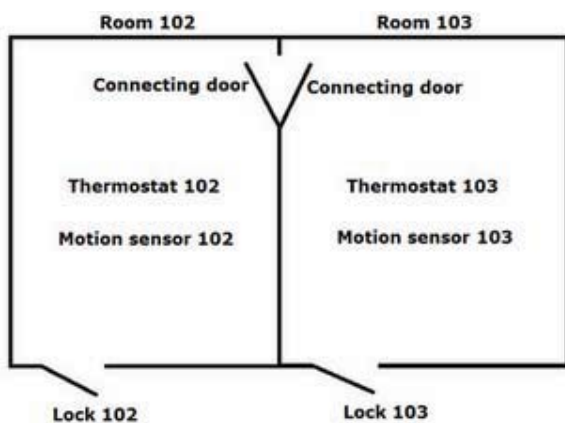
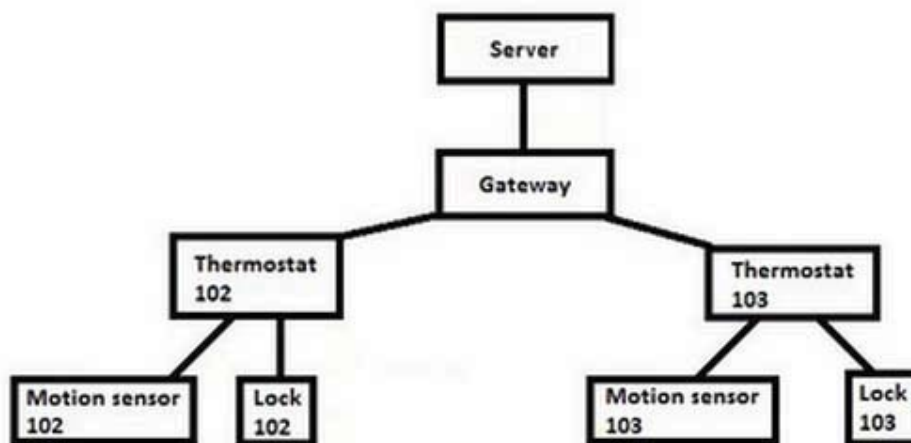

Figure C10
Figure C12
When a suite card is presented at one of the concerned VingCard locks (to either *lock 102* or *lock 103* in the example in Figure C10), the thermostat communicates with the other connected room to activate suite mode and share events. The suite will be active and events will be shared between the two thermostats, even if the connecting doors are closed. Upon check-out or if the suite card expires, the thermostat disables event sharing.
The online network for the example in Figure C10 looks as in Figure C12. The two thermostats 102 and 103 must be set up under the same parent in the network, i.e. be set up in the same PAN (*personal area network*). To set up the network, follow the steps below:
2. In this example, the *master thermostat* is in room 102 (room A in Figure C10). Connect the service cable to the thermostat in room 102.
- Enter the **Suite room** (*slave room*); in this example 103 (room B in Figure C10).